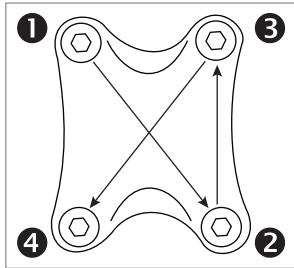
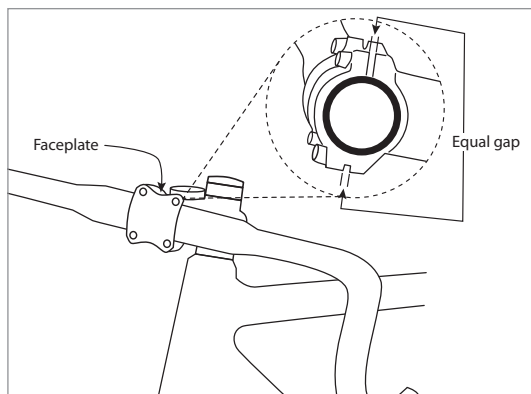

Figure 3
Figure 4
- Alternately tighten the faceplate bolts following the tightening sequence in Fig 3. Turn each bolt in half-turn increments until they reach a torque of 5–8Nm. Do not exceed the lowest maximum torque rating marked on any of the components. Then check the upper and lower gaps between the front cap and the rear portion of the handlebar clamp to make sure they are equal (Fig. 4).